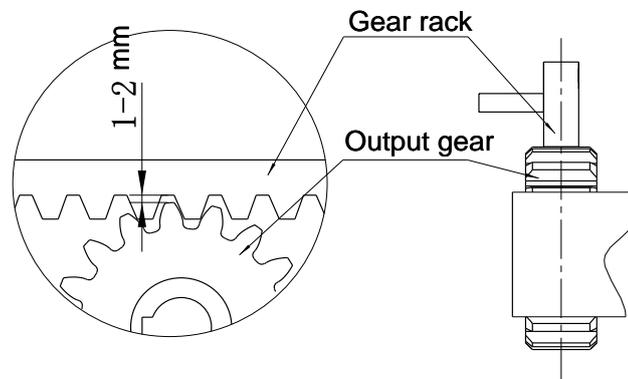

Figure 7
- Manually move the gate to check whether there is a fit clearance between the rack and output gear, as shown in Figure 7. The gate should be moved smoothly after the motor disengaged.
The fit clearance of output gear and rack is shown in Figure 7 below: